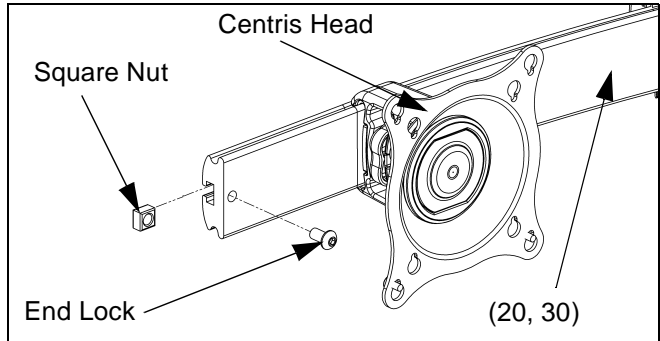

Figure 9: Remove End Lock(s)
1. Uninstall end lock using the 5/32" hex key (120). (see Figure 9)